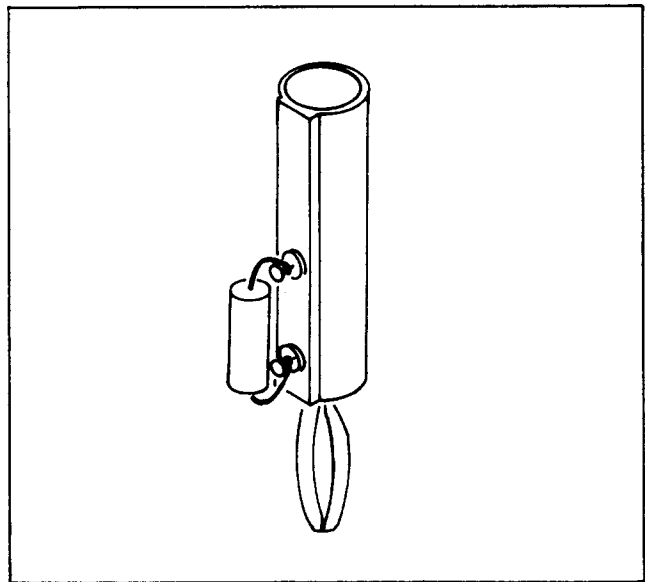

Figure 4-2. 19Ω and 1.9Ω Test Sets
- 4-22. The components needed are one 19 ±0.05% Ω precision resistor and one single banana connector with two terminal isolation. The Pomona connector, model number 1390-2, and the Dale Electronics, Inc., precision RS-1/4 resistor specified for 19 ±0.05% Ω, will meet the requirements for the 19Ω Test Set. See Figure 4-2 for assembly.
- 4-24. The components needed are on 1.9 ±0.05% Ω precision resistor and one single banana connector with two terminal isolation. The Pomona connector, model number 1390-2, and the Dale Electronics, Inc., precision RS-1/4 resistor specified for 1.9 ±0.05% Ω will meet the requirements for the 1.9Ω Test Set. See Figure 4-2 for assembly.